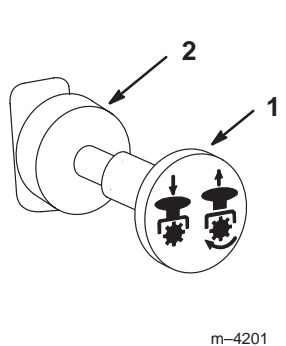

Figure 3
3. Move the PTO (power take off) switch to “OFF” (Fig. 3).